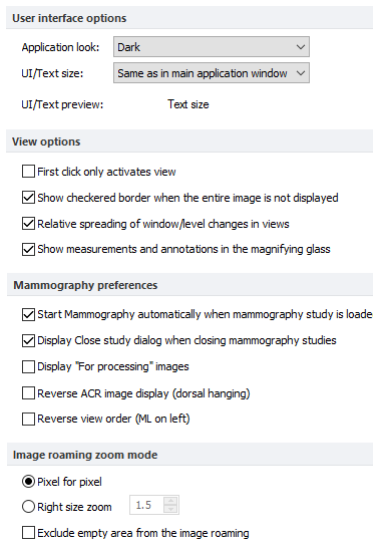

**Figure 77 – Monitor calibration**
2. The **Full screen calibration** dialog is displayed on the selected monitor (see Figure 77).